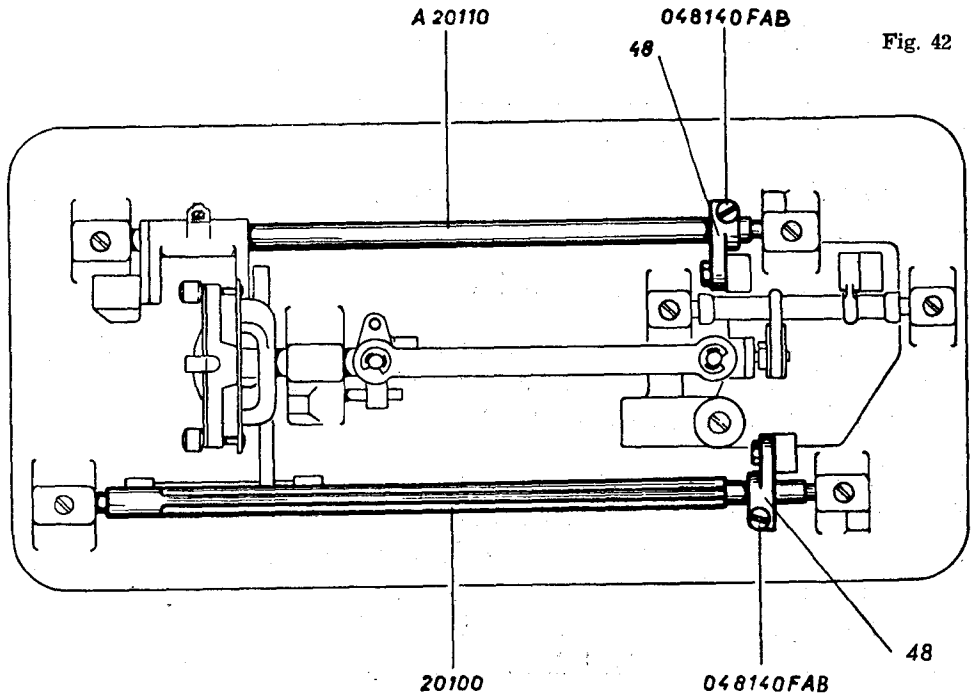

Fig. 42
c. In case the feed dog is not correctly centered in the direction of sewing, adjust it at the point of connection of the feed dog shaft No. 20100 with the feed dog shaft crank No. 48 (see Figures 42 and 43) in the following manner:
— Loosen the screw No. 048140 FA which clamps the feed dog shaft crank No. 48 to the feed lifting shaft No. D 20110 (see Figures 42 and 44), then turn the feed lifting shaft in the proper direction until the above requirement is met. Tighten the clamping screw in the feed dog shaft crank No. 48 firmly after this adjustment.